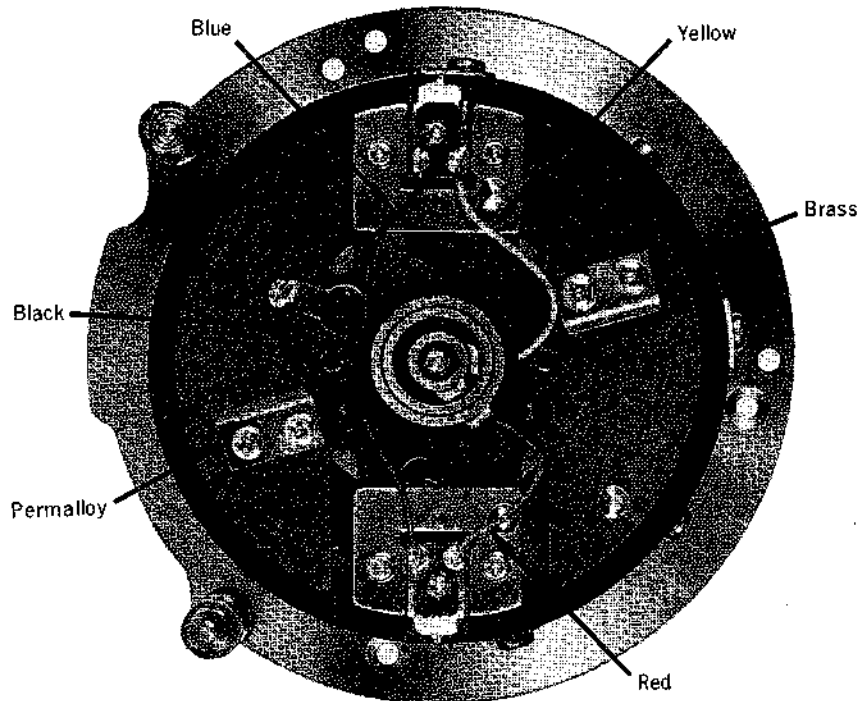

Fig. 14
- (b) The color of the wire closest to the brass pick-up plate is yellow (wire on opposite side is red). (Refer to Fig. 14).